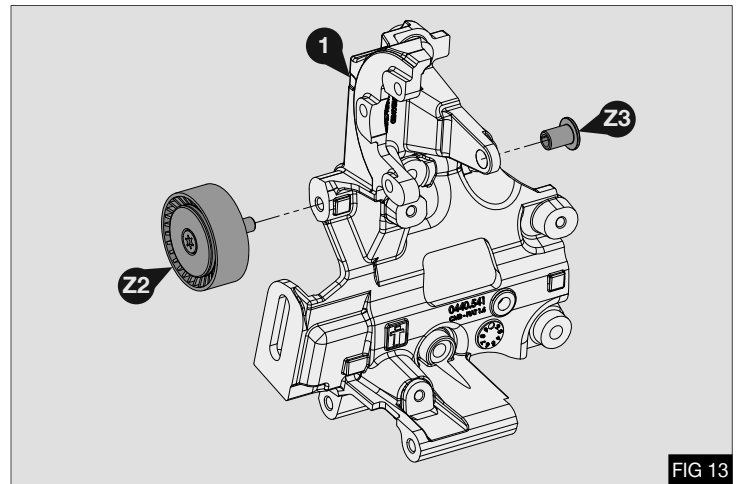

FIG 13
3. Fit the original idle pulley (Z2) to the mount bracket (1) using the original fastener. Insert sliding spacer (Z3) - Fig 13